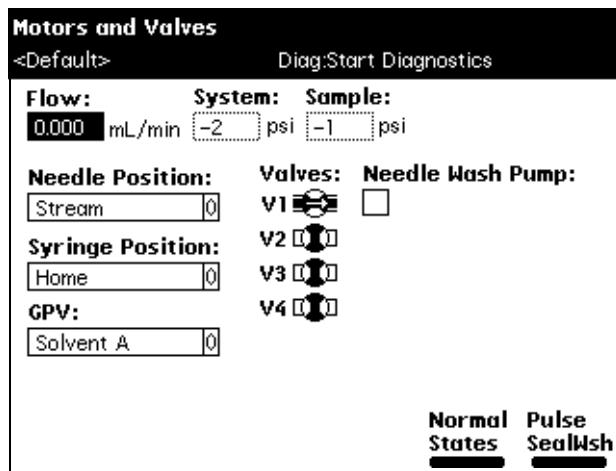

Figure 8-9 Motors and Valves Diagnostic Screen
To perform the Motors and Valves diagnostic, select **Motors and valves** in the Other Diagnostics screen, then press the **OK** screen key. The Motors and Valves diagnostic screen appears (Figure 8-9).
2. Press any numeric key to toggle the valve between the open and closed position. In Figure 8-9, valve V1 is in the open position as indicated by the valve symbol.